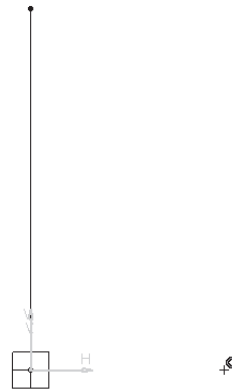

Figure 6-73 Point to be placed
3. Select the yz plane and invoke the **Sketcher** workbench. Place a point colinear to the X-axis at any distance, as shown in Figure 6-73. Exit the **Sketcher** workbench.